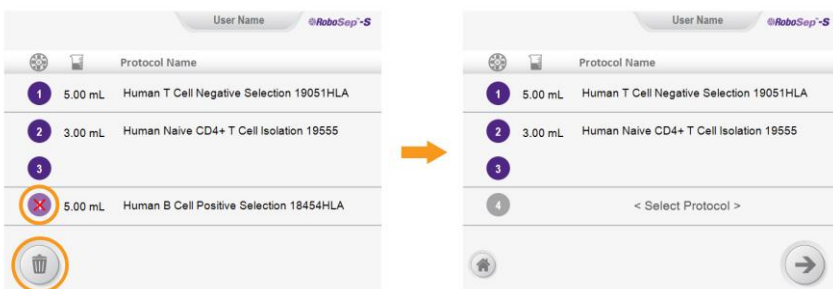

Figure 19. Removing a Protocol from an Assigned Quadrant
*Note: To remove a protocol from an assigned quadrant, select the quadrant number icon on the Run Samples screen. An **X** will appear on the quadrant number icon (Figure 19). Select  [Delete] to remove the selected protocol from the assigned quadrant. Any combination of quadrants can be selected in this manner.*